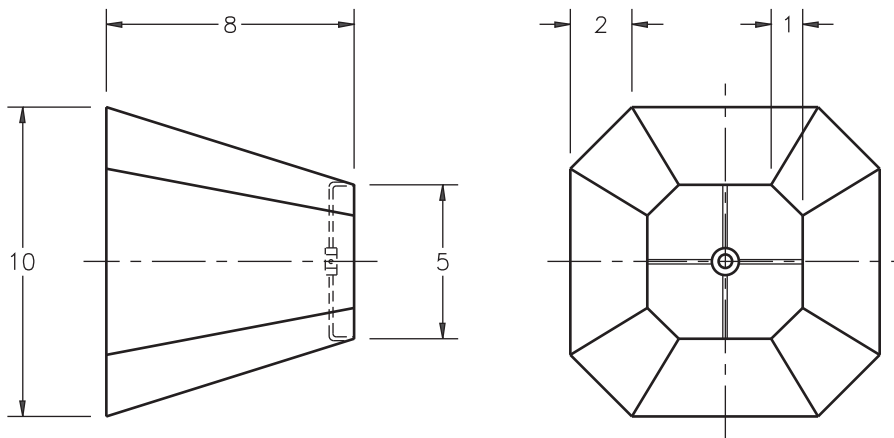

Fig. 40-6
- Your proposed lamp shade design needs to be drawn in three dimensions before your supervisor will approve the design. Draw a 3D model of the lamp shade shown in Fig. 40-6. Omit the hanger. Create 3D faces where appropriate. Save the drawing as **ch40-lampshade.dwg**.